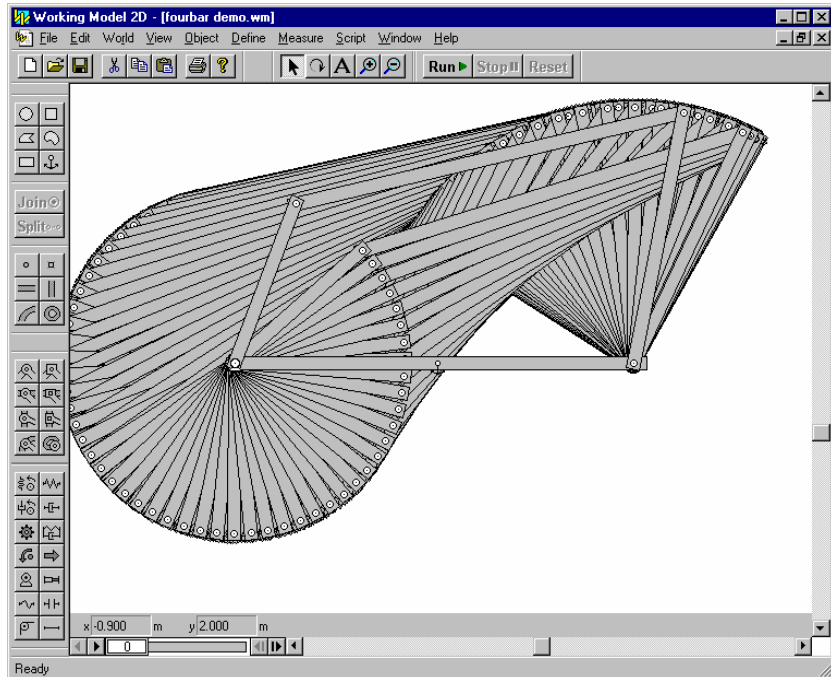

Figure 14. Building a fourbar linkage, Step 15, simulation of Grashoff linkage.
15. Run the model simulation. You should see the crank-rocker behavior shown, Figure 14.